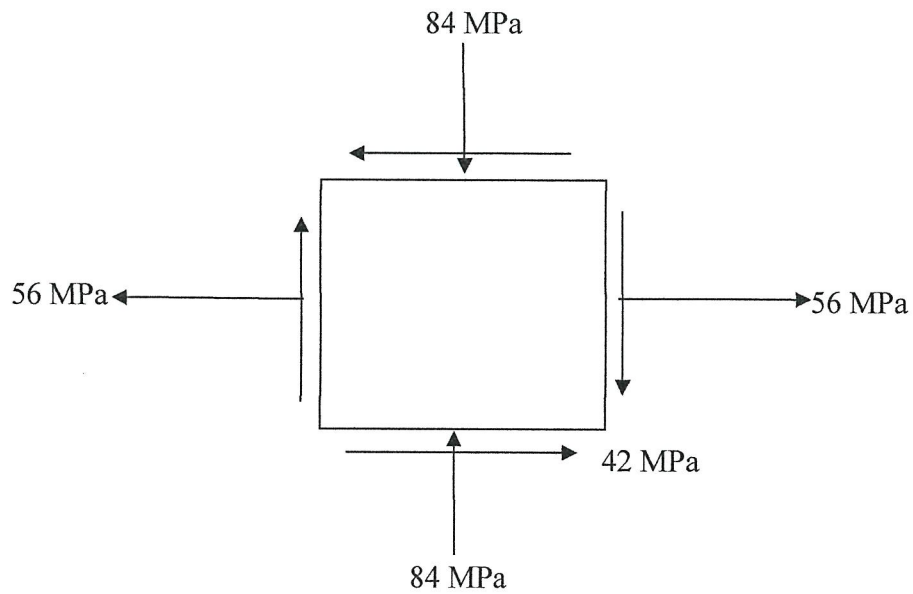

Figure Q1(b)
- (b) A plane element is subjected to a set of stresses as shown in **Figure Q1(b)**.